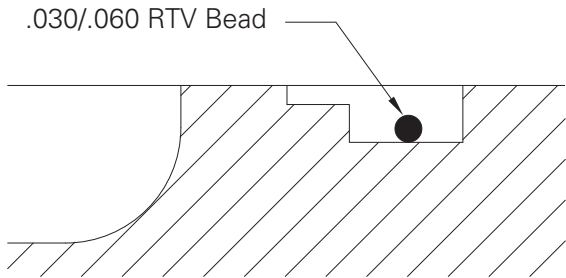

Figure 11
- 4.5.6.3 The 48WCSB tensioner/brake assembly incorporates a dual groove for both the Loctite Superflex® #596 Sealant and an O-ring. An initial bead of sealant. 030"-.060"(0,7 mm - 1,5 mm) in size must be applied to the bottom of the deep groove in order to hold the O-ring in place. See Figure 11.